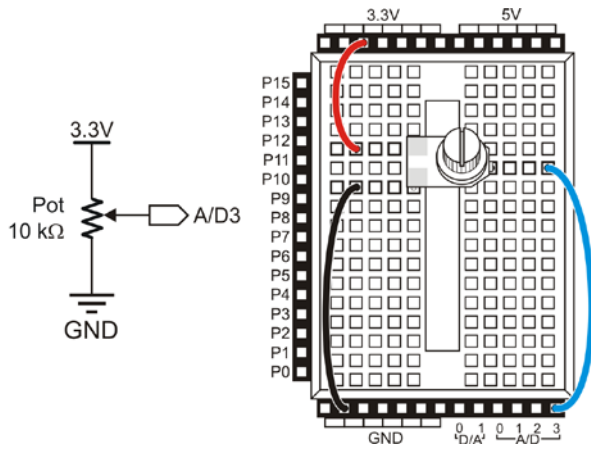

Figure 6-10
Figure 6-10 shows a schematic and wiring diagram for a potentiometer voltage output circuit. This circuit should allow you to turn the knob from its clockwise limit to its counterclockwise limit, for voltage measurements ranging from about 0 V to just less than 3.3 V.
- Build the circuit shown in Figure 6-10.